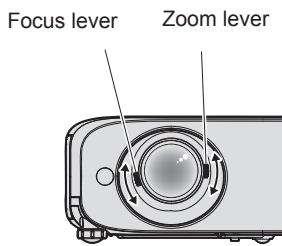

Fig. 1
2) **Adjust the zoom and the focus. (Fig. 1)**